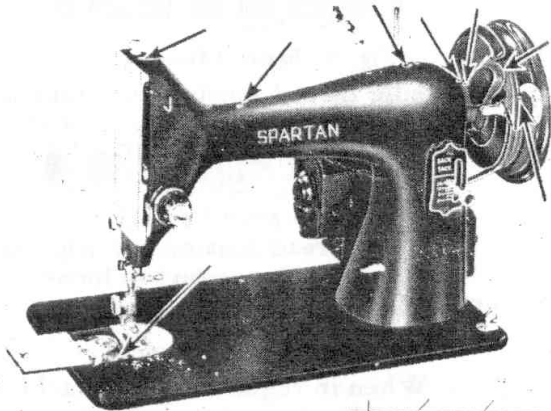

Fig. 19
- Apply a drop of oil to each of the places indicated in **Figs. 19, 20 and 21**.